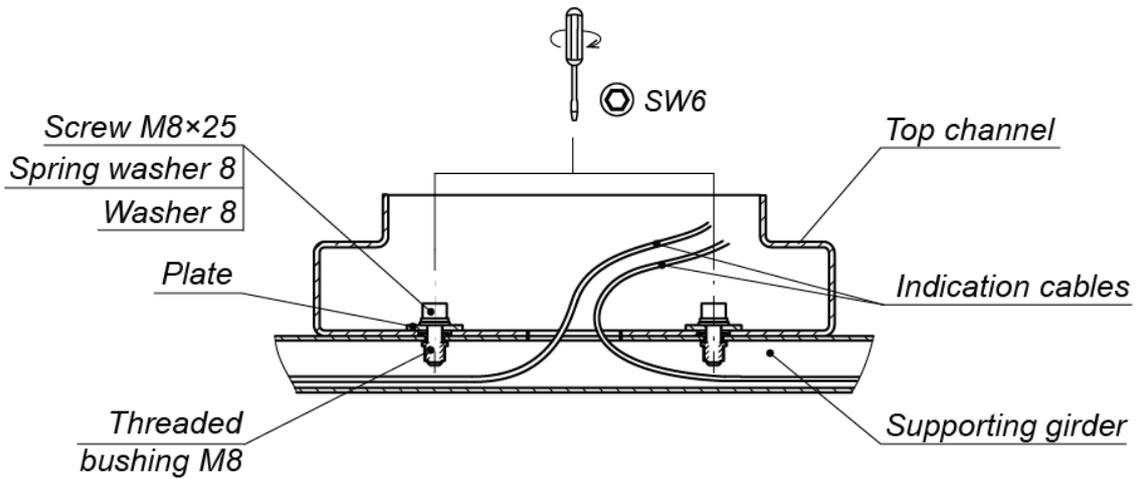

Figure 16. Top channel (8) to supporting girder (7) fastening
- Fix the top channel to the supporting girder (7) with two bolts M8×25 and the key SW6, using two plates from the delivery set (Fig. 16).